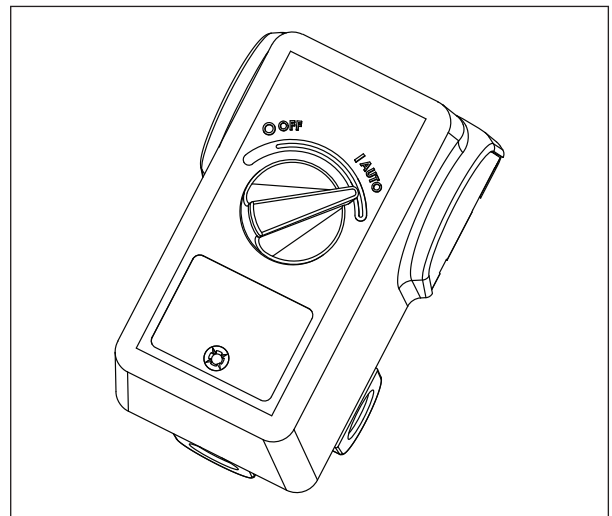

Figure 7
4. Move pressure switch to the **AUTO** position to run the unit (see Figure 7).
5. Run the unit for thirty (30) minutes at zero (0) psi (under no load) to break in pump parts.
7. Change oil after first fifty (50) hours of operation. Then perform oil changes every three (3) months or two hundred (200) hours of run time, whichever comes first.